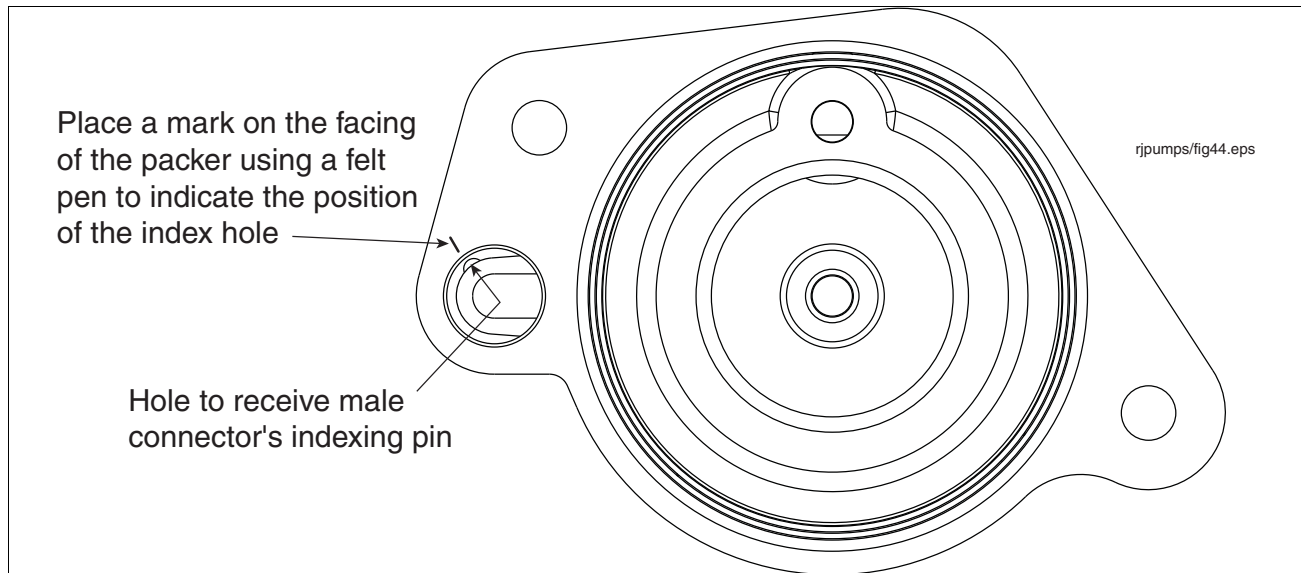

Figure 32. Male connector index hole in base of socket
10. The indexing pin on the back of the connector must seat in the index hole in the base of the male connector's socket (see Figure 32) for the connector to be correctly oriented relative to the female connector.
11. Place a mark on the facing of the Packer using a felt pen to indicate the position of the index hole (see Figure 32).